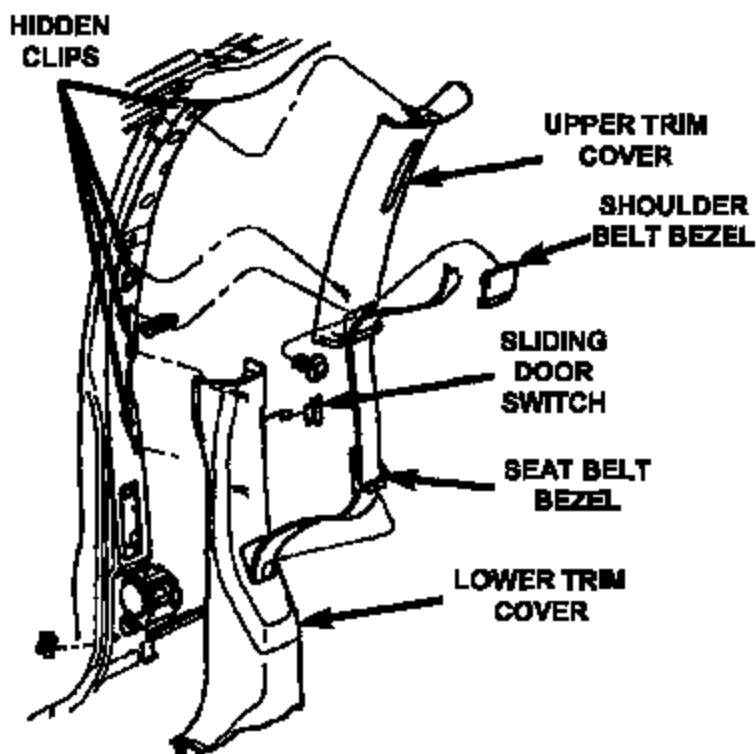

Figure 1
5. Remove the sliding door switch from the lower B-pillar trim cover (if equipped) (Figure 1).
6. Disengage the hidden clips and remove the lower B-pillar trim cover (Figure 1).
11. Remove the shoulder belt bezel from the upper B-pillar trim cover (Figure 1).
13. Disconnect the lower trim cover seat belt bezel (Figure 1) and then route the seat belt through the openings in the upper and lower B-pillar trim covers.
19. Install the lower trim cover seat belt bezel (Figure 1).
20. Engage the hidden clips to secure the upper B-pillar trim cover and install the upper cover screw (Figure 1). Tighten the screw securely.
21. Install the upper B-pillar trim cover bezel (Figure 1).
23. Place the lower B-pillar trim cover into position on the B-pillar (Figure 1).
24. Engage the hidden clips to secure the lower trim cover to the B-pillar (Figure 1).
25. Install the power door switch into the lower B-pillar trim cover (if equipped) (Figure 1).